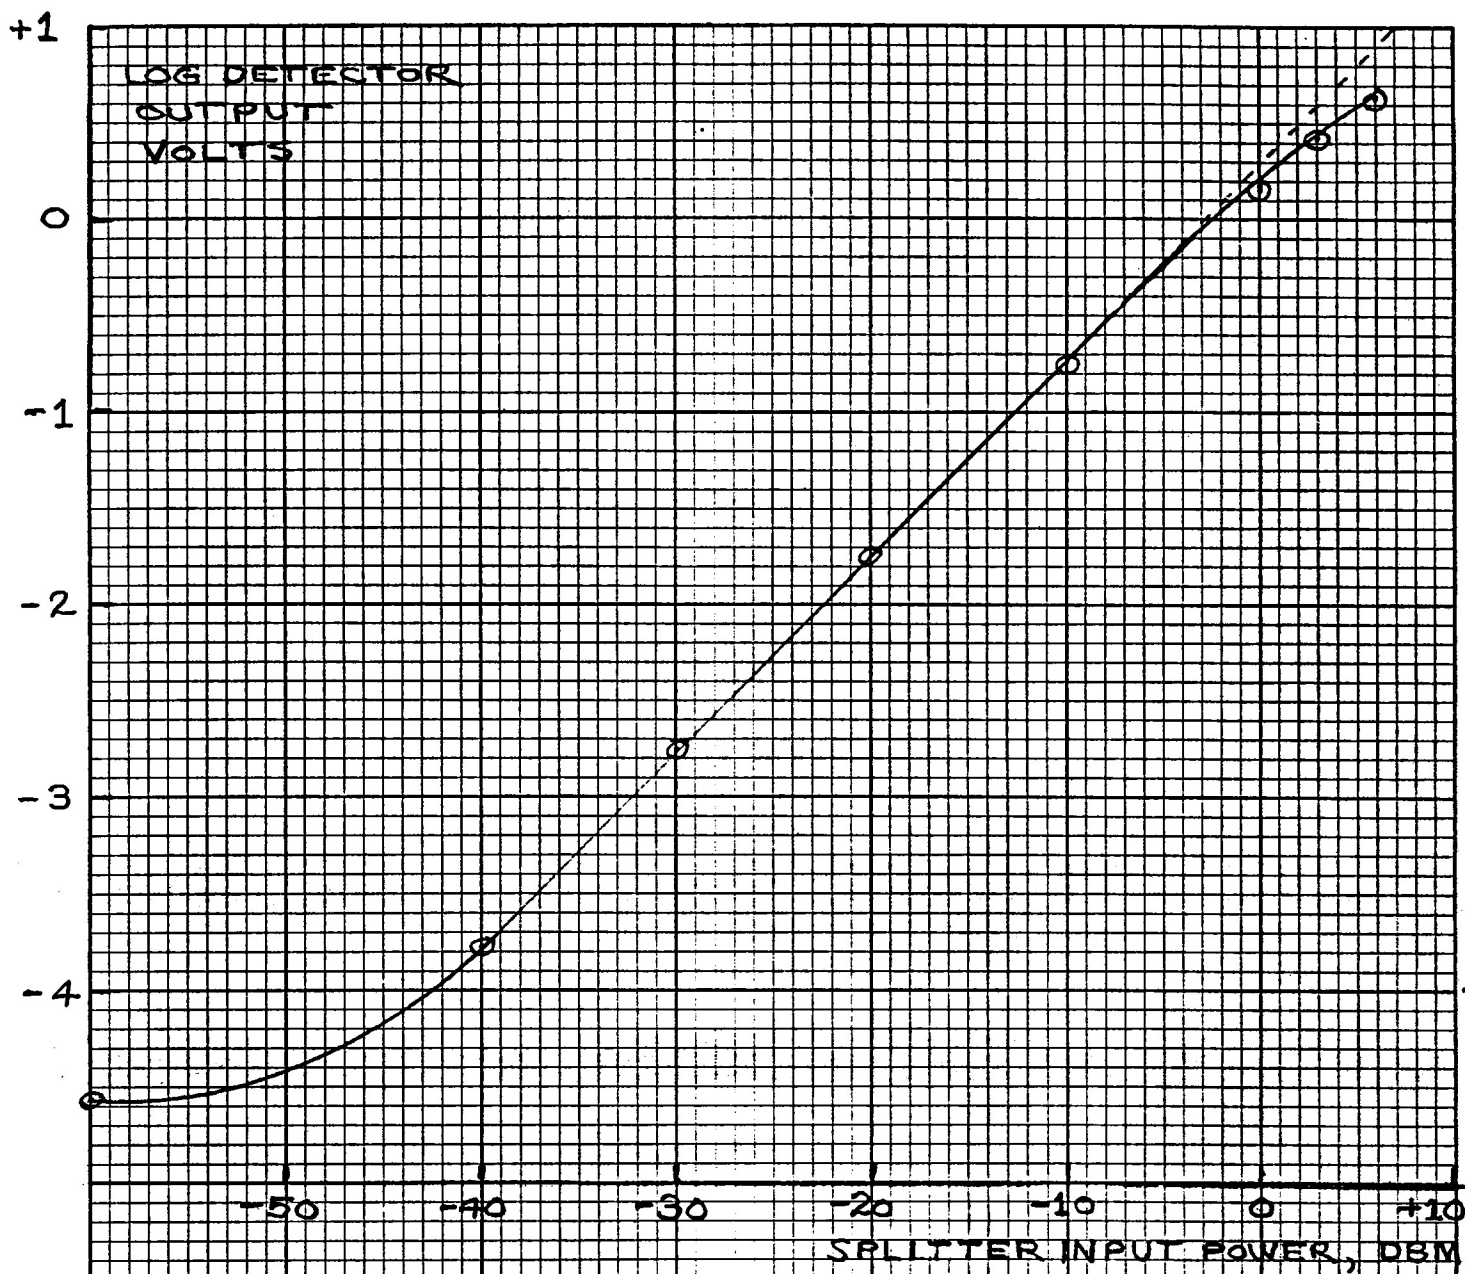

FIGURE 4 - Log Detector output voltage as a function of Splitter input power level.
a) Log Detector Monitoring - Each input is coupled to a detector and logarithmic amplifier to provide a DC output as shown in Figure 4. This output is within a few percent of 10 dB per volt for input levels of -33 dBm to -3 dBm (output level of -3 volts to 0 volts). This signal is for swept frequency testing of the front-end; the sweep generator output level should be adjusted so the peak Log Detector output level is ~0 volts.